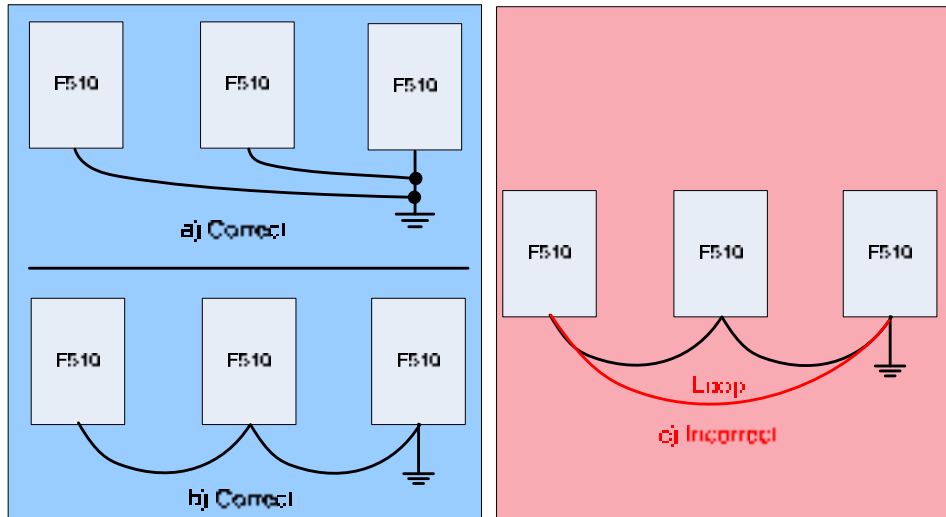

Figure 3.3.7.2 F510 Inverter Grounding
- (1) Connect the ground terminal (E) to ground having a resistance of less than 100Ω .
- (2) Do not share the ground wire with other devices, such as welding machines or power tools.
- (3) Always use a ground wire that complies with the local codes and standards for electrical equipment and minimize the length of ground wire.
- (4) When using more than one inverter, be careful not to loop the ground wire, as shown below in Fig. 3.3.7.2.